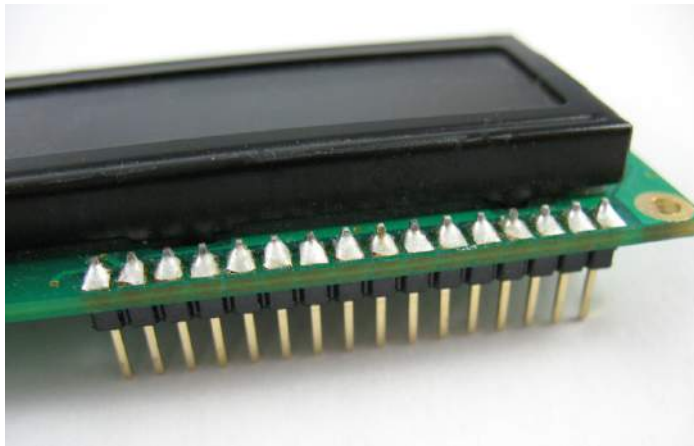

Figure 7-26. Male headers soldered to LCD
1. Trim your male headers down to 16 (or 14) pins to match the number of connection holes available on your LCD. Solder the row of male headers into the LCD as shown in Figure 7-26.